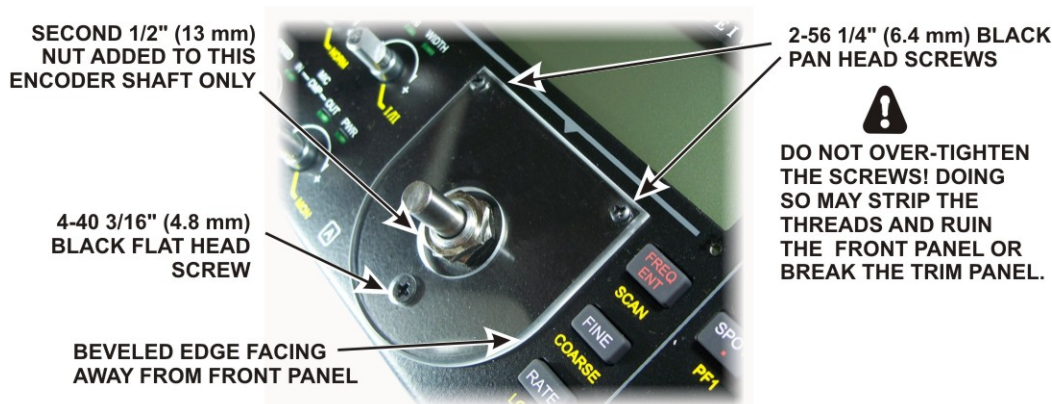

Figure 44. Mounting VFO A Trim Panel.
□ Place a second 1/2" (13mm) nut on the VFO A encoder shaft under the LCD and tighten it against the nut you installed earlier (see Figure 44).
- Brush or blow any dust or lint away from the front panel area around the encoder shaft under the LCD, then mount the trim panel as shown in Figure 44, oriented so the beveled edges are away from the front panel. Use the 2-56 1/4" screws found in the small envelope marked E850341 VFO A Bezel Screws Envelope 2-56 1/4 Blk Ox PH+(700124). Tighten the screws only until they come into firm contact with the trim panel. Be sure you are using the 1/4" (6.4 mm) screws and not the shorter 5/32" (4.0 mm) screws. **Be careful not to over-tighten the screws or you may strip the threads or break the trim panel!**